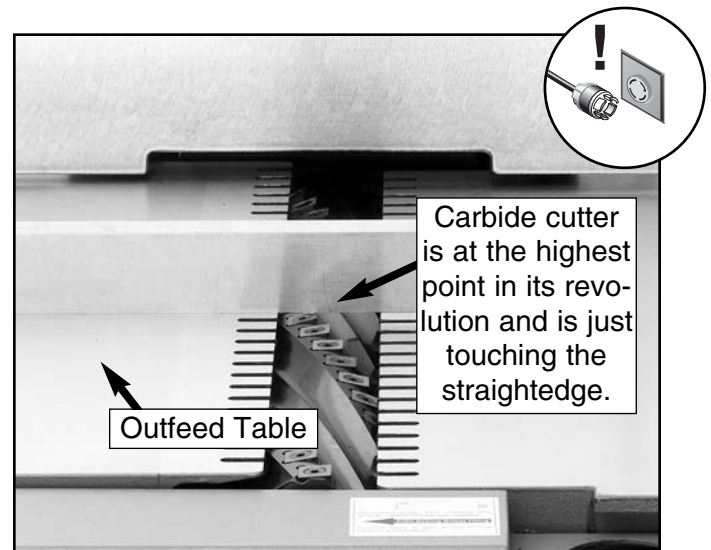

Figure 18. Verifying outfeed table height with straightedge.
3. Position the edge of a straightedge on the outfeed table so that it extends over the cutterhead (**Figure 18**).